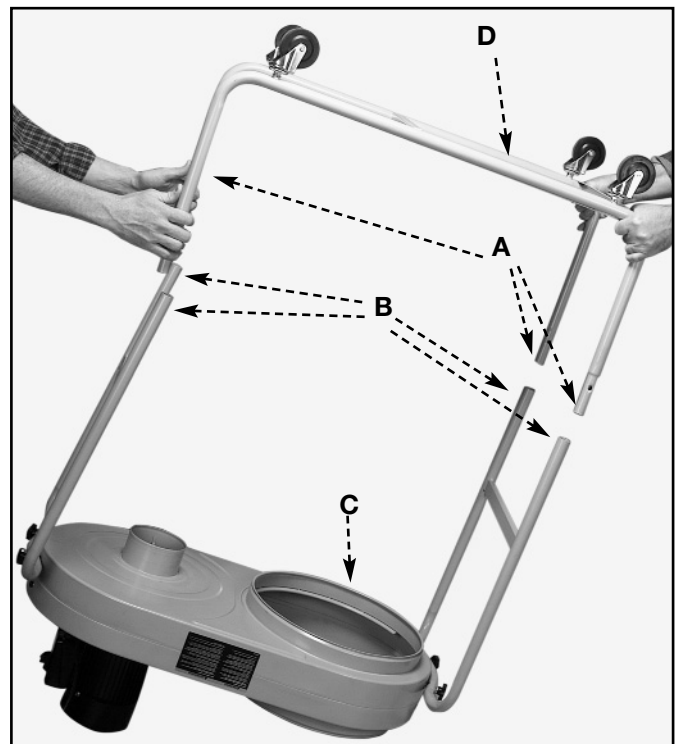

Fig. 3
Place all four stand posts (A) Fig. 3 (three shown) into four legs (B) on motor/blower assembly. Make sure metal base plate (D) is arranged over the large dust collection hole (C).